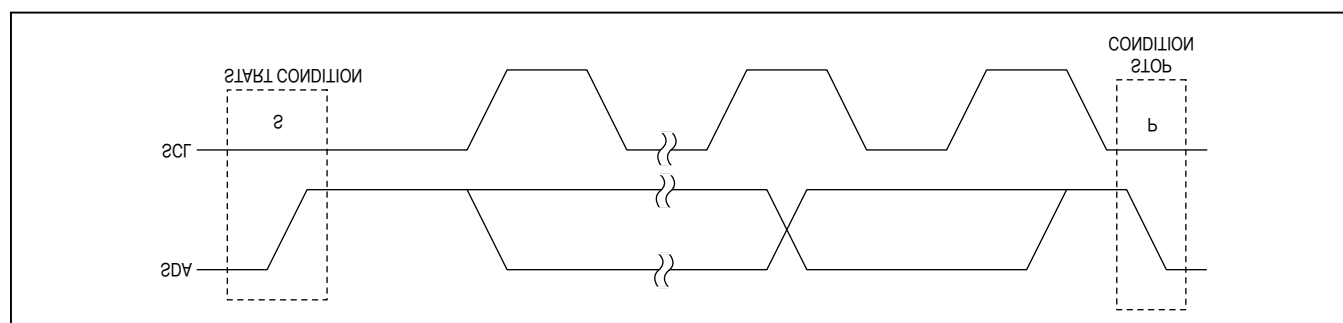
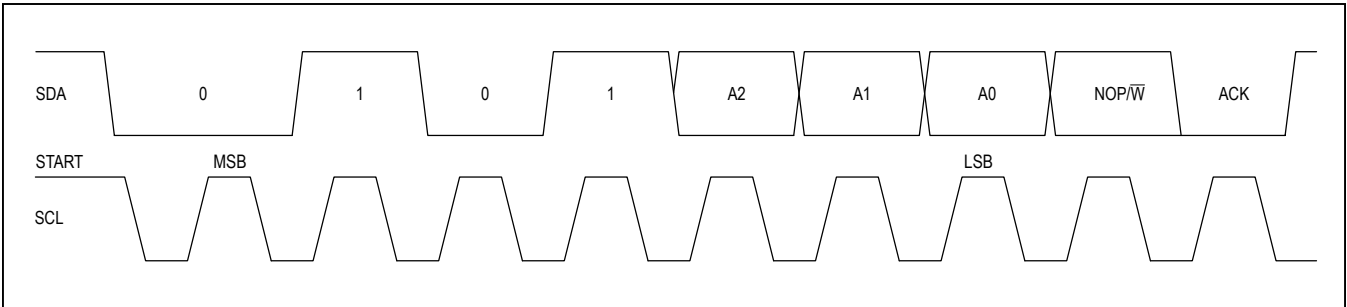

Figure 3. START and STOP Conditions
Figure 6. Slave Address
Each transmission consists of a START (S) condition (Figure 3) sent by a master, followed by the MAX5387 7-bit slave address plus the NOP/ $\overline{W}$ bit (Figure 6), 1 command byte and 1 data byte, and finally a STOP (P) condition (Figure 3).
The MAX5387 includes a 7-bit slave address (Figure 6). The 8th bit following the 7th bit of the slave address is the NOP/ $\overline{W}$ bit. Set the NOP/ $\overline{W}$ bit low for a write command and high for a no-operation command. The device does not support readback.